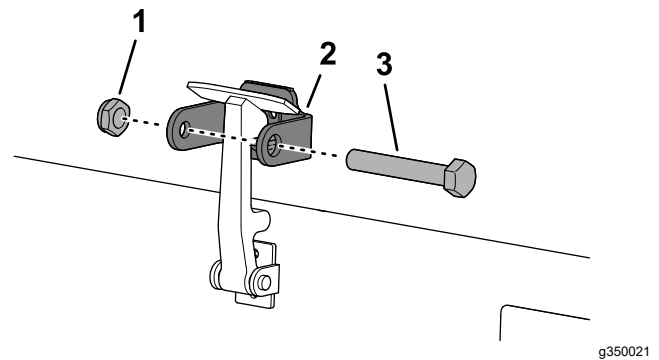

**Figure 25**
7. Hook the latch onto the hood-latch bracket (Figure 25).